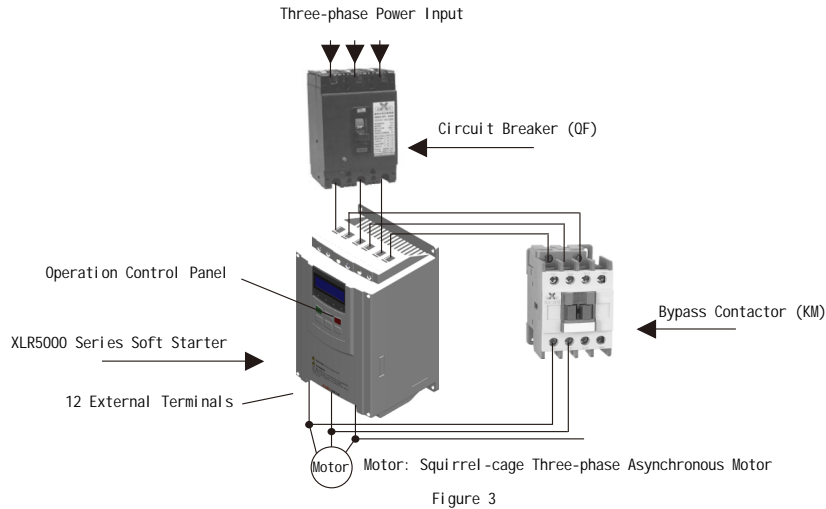

Figure 3
2. Basic Wiring Diagram of the Soft Starter (See Figure 3)